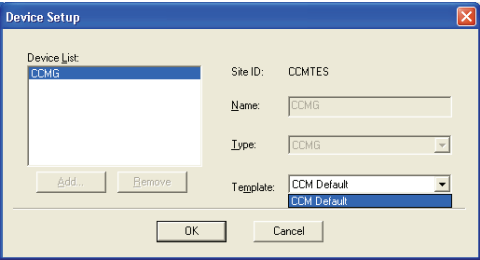

FIGURE 2-48. CCM SETUP
9. Click on “CCMG” in the Device List and select the created template (see Figure 2-48).